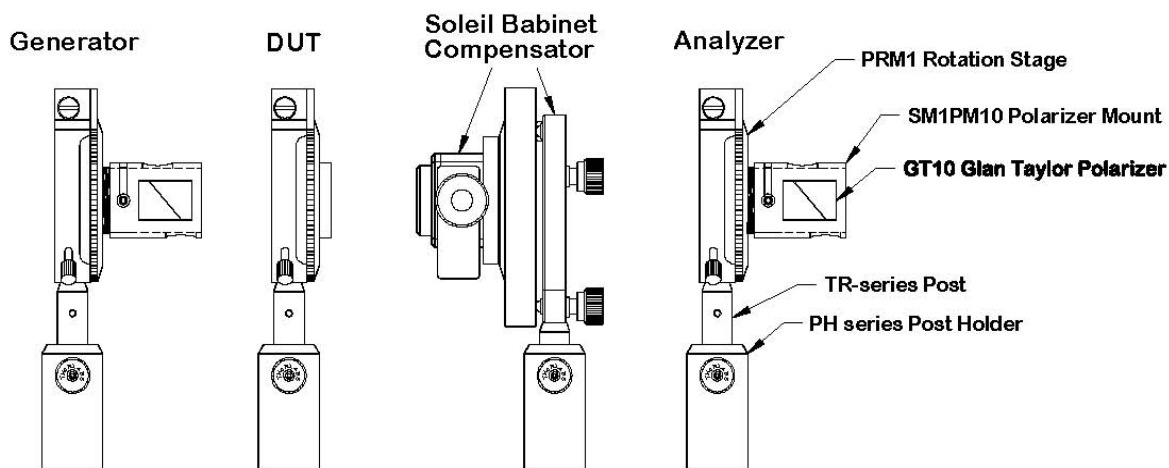

Figure 1 Typical Arrangement of Compensator with Crossed Polarizers
Thorlabs carries a complete line of high quality calcite polarizers, rotation mounts and other accessories useful for constructing this setup. Figure 1 shows a typical arrangement.
1. Set up the crossed polarizer and DUT mount as shown in figure 1.